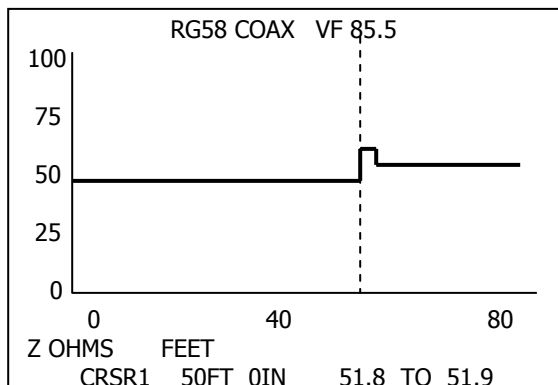

Figure 2
3. Corrosion on the connection surfaces, on either the center conductor or the shield of the connectors, create a resistive fault that will raise the impedance going through the connection. The amount of resistance is random depending on the amount of poor connection surface, but the resistance will raise the impedance trace on the far side of the connection as shown in Figure 2.
If the coax cable has been directly spliced without the use of connectors and a poor connection results from a cold solder joint, dirty connection or corrosion, it will appear as a resistive fault. It will also raise the impedance trace on the far side of the splice and appear similar to the trace shown in figure 2.